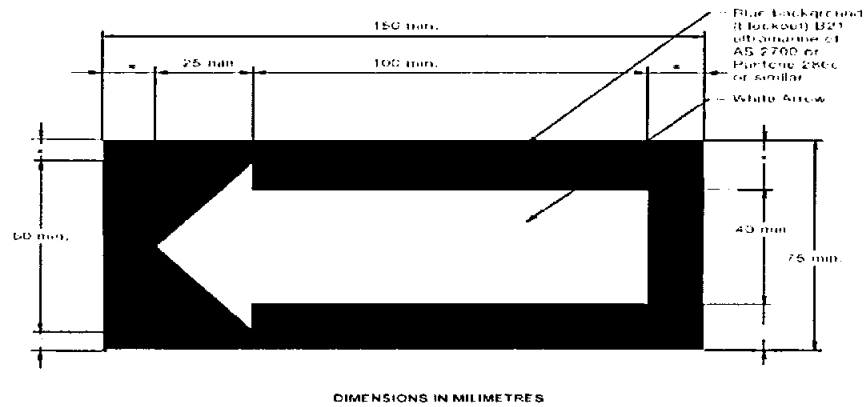

Figure 2 - Signage on the internal and external faces of the door
- (vii) signage complying with **Figure 2** below shall be provided on the internal and external faces of each door leaf. This signage shall be located between 1200 and 1600mm above the finished floor level and as close as possible to the main closing edge of the doors; and